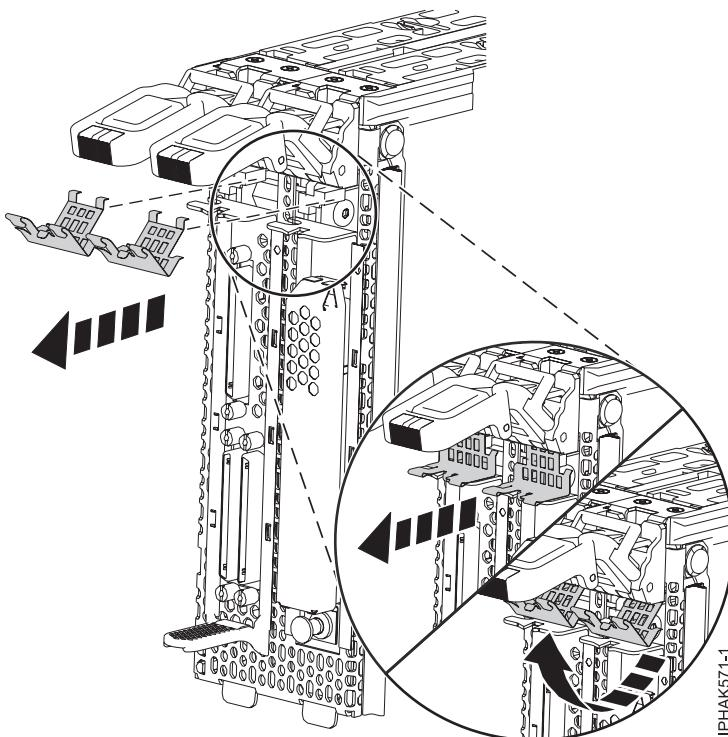

Figure 64. Removing the two metal clips into the front of the assembly
2. Raise the locking arms to the full up position and remove the two metal clips from the front of the assembly. See Figure 64